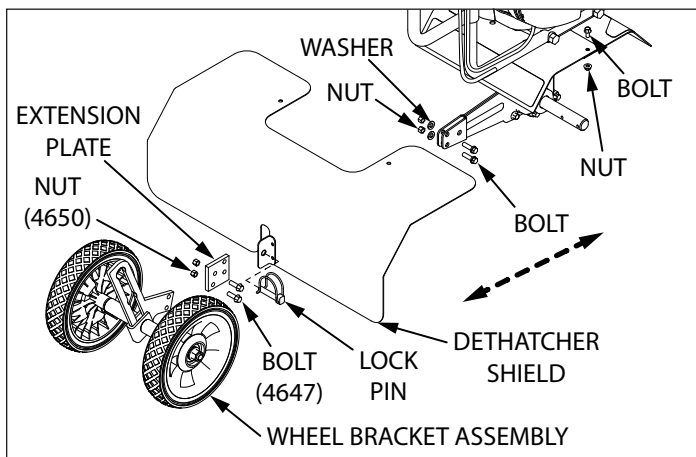

FIGURE 14
SEE FIGURE 14
3. Slide dethatcher shield over the unit's tine shield from the rear of the unit and secure using bolts and nuts. **SEE FIGURES 14 & 15**
4. Secure the lower part of the dethatcher shield to the drag stake mount using the lock pin. **SEE FIGURE 14 & 15**
5. Install wheel extension plate (4676) using additional bolts (46142) and nuts (4650). Make sure wheel extension is facing the correct direction. (The side, with the two holes flush to the edge, connects to the drag stake mount) **SEE FIGURE 14**